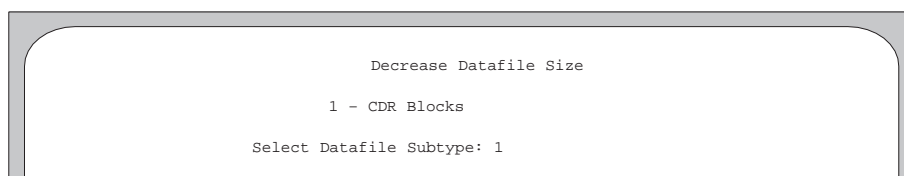

Figure A-29. Decrease Datafile Size Menu.
1. From the Datafile Utilities menu, access the Decrease Datafile Size utility. The Decrease Datafile Size menu appears, as shown in Figure A-29.